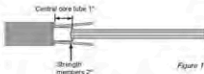

Figure 11
- Ring cut the core tube 1" from the sheath ring cut and remove entire tube. Clean exposed fibers or ribbons with approved degreaser. (Fig. 11)